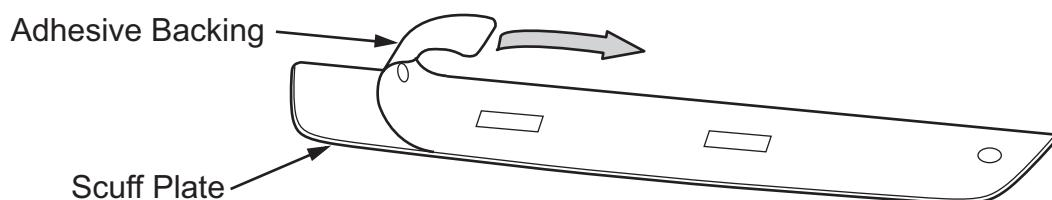

Figure 4
- A. Remove the adhesive backing from Scuff Plate and discard. (Figure 4)
- Remove the adhesive backing from Scuff Plate and discard. (Figure 4)